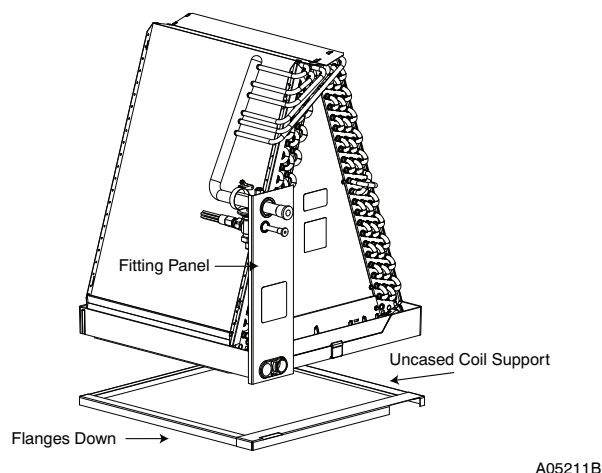

Fig. 1 - Uncased Coil Support
- Remove and discard fitting panel shipped with the uncased coil. See **Fig. 1**.
- Mount factory coil support (shipped with coil) directly on furnace flanges to support the coil. See **Fig. 1**.